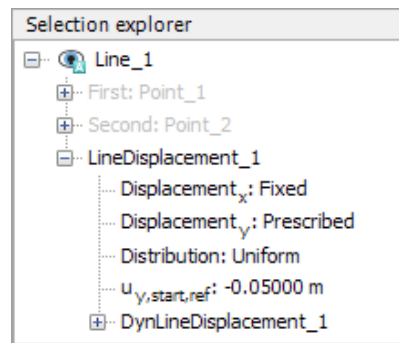

Figure 9: Prescribed displacement in the *Selection explorer*
8. Specify a uniform prescribed displacement in the vertical direction by assigning a value of -0.05 to  $u_{y,\text{start,ref}}$  signifying a downward displacement of 0.05 m as shown in Figure 9 (on page 20).